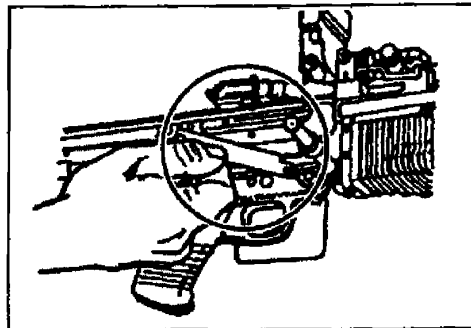

Figure 071-312-3025-7. Sear pin
- b. Rotate the rear of the leaf spring up to clear it from the sear pin (figure 071-312-3025-7).